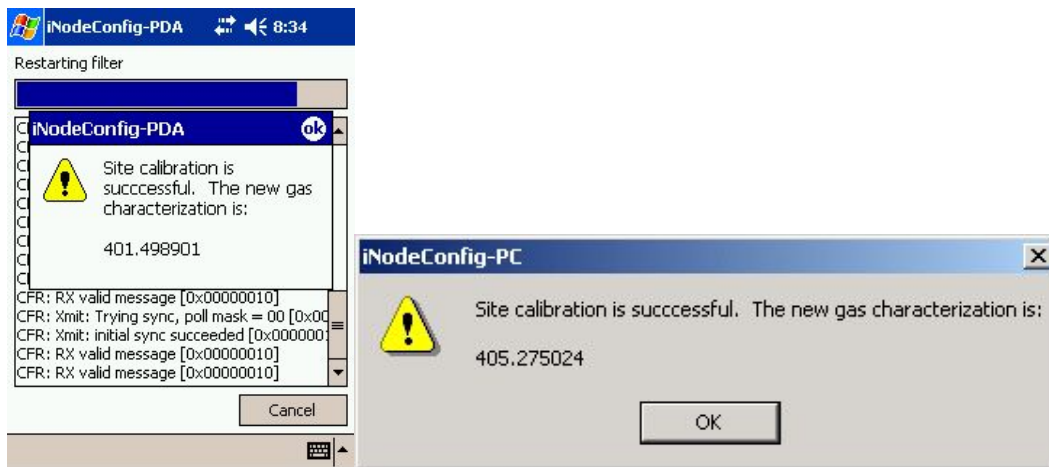

Figure 19. Site cal successful window.
- If the calibration is successful, the Site Cal Successful window will be displayed as in Figure 19. Tap **OK** to close the window and complete the calibration.